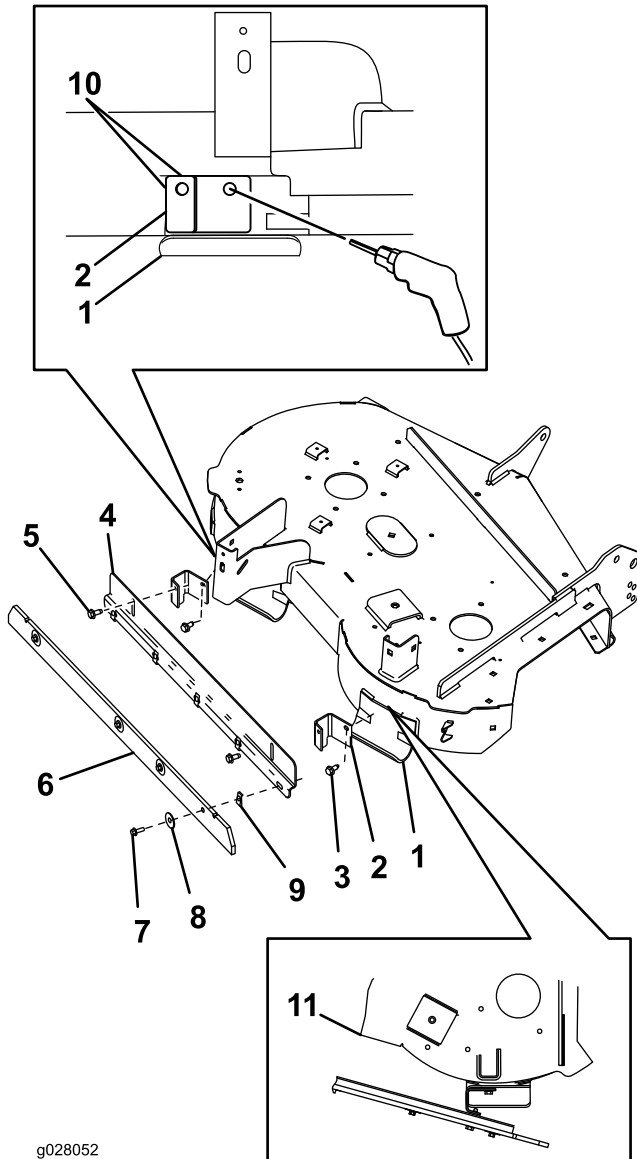

Figure 1
1. Locate the right skid on the rear-facing side of the mower deck as shown in Figure 1.
3. Mark the outline of the mounting bracket hole onto the skid (Figure 1).
8. Locate the left skid on the rear facing side of the mower deck as shown in Figure 1.
10. Ensure that the slots in the striping bracket align with the holes in the short leg of the mounting brackets (Figure 1).
1. Align the striping bracket so that the mounting flange is up and facing the mower deck (the wiper flange is down and away from the deck) as shown in Figure 1.
2. Align the top of the slot in the mounting flange of the striping bracket with the hole in the short leg of each mounting bracket installed on the skids (Figure 1).
3. Secure the striping bracket to each mounting brackets with the self-threading, washer-head screws (Figure 1).
2. Position the longer leg of the mounting bracket for the striping kit against the skid (Figure 1).